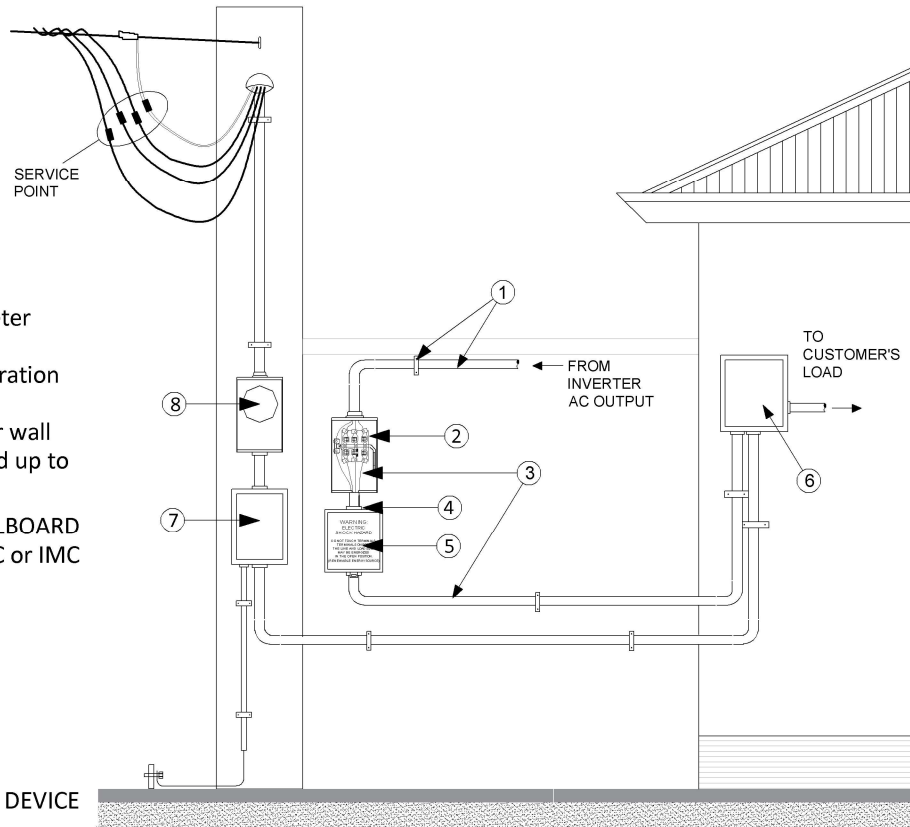

Figure 1. REC Meter
- ☐ 2. REC METER (See Figure 1)